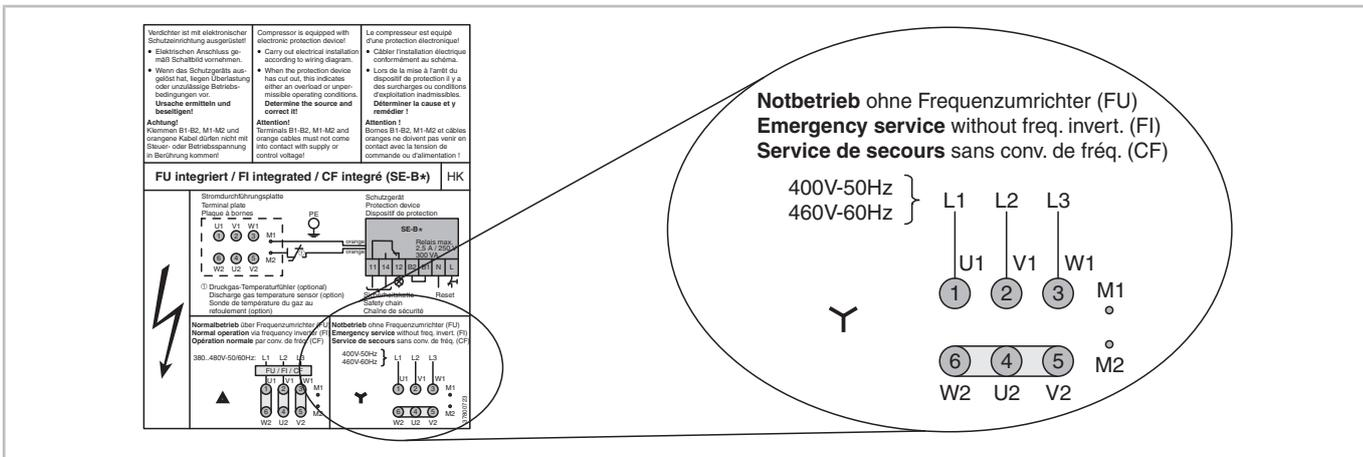

Fig. 12: Adhesive label in the terminal box of the compressors with F1 (emergency operation)
Connecting the compressor directly to the voltage supply (see figure 12, page 33)
- ▶ The wiring diagram for the emergency operation of the compressor can be found in the terminal box cover of the compressor (see figure 12, page 33).
- Bridge the bolt terminal W2/U2/V2 of the motor terminal strip (see figure 12, page 33).